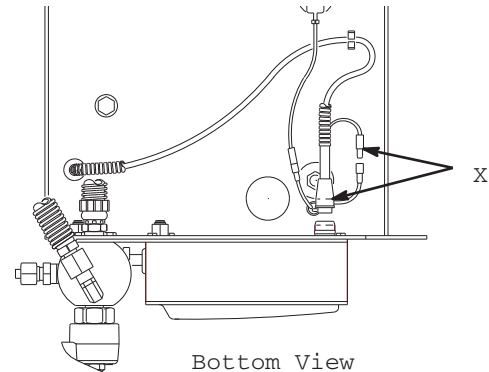

FIG. 14
11. Connect field cable (X) to pressure control and engine lead (FIG. 14).